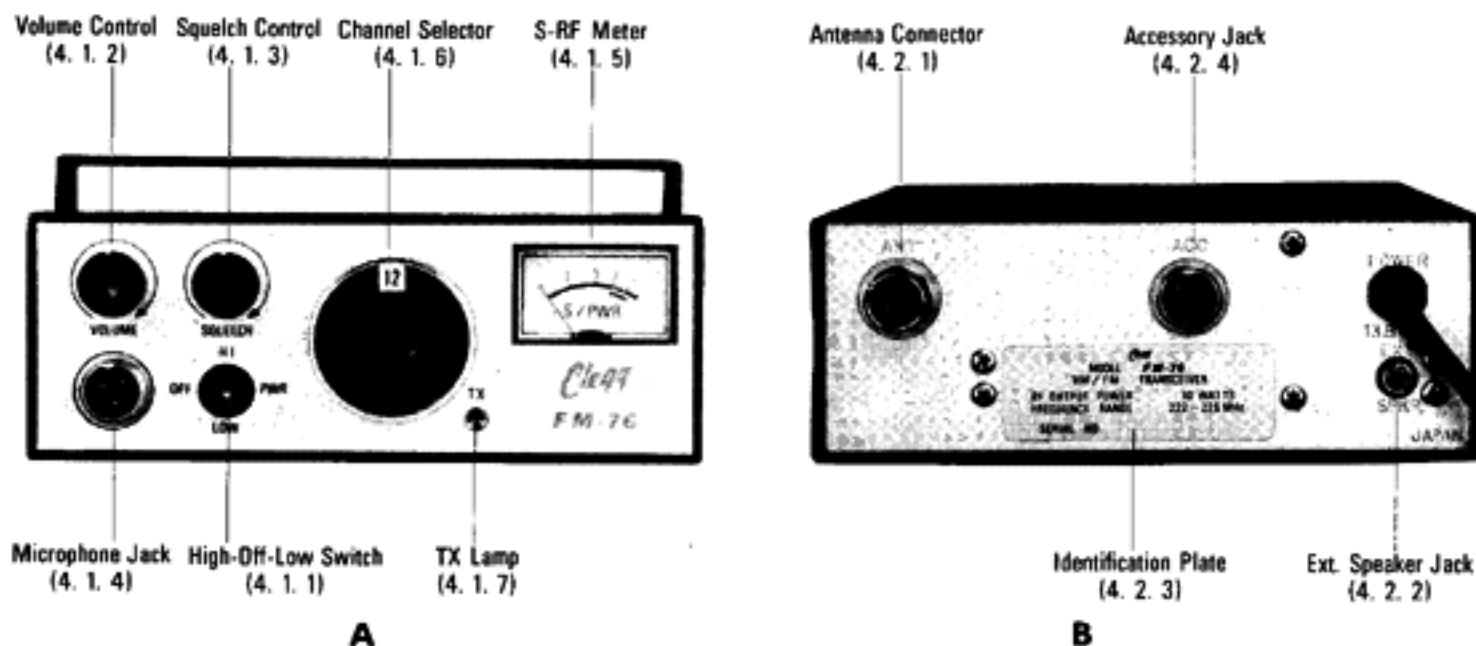

FIG. 2
4.1 Front control and jack (Fig. 2-A)
- 4.2 Rear Panel (Fig. 2-B)